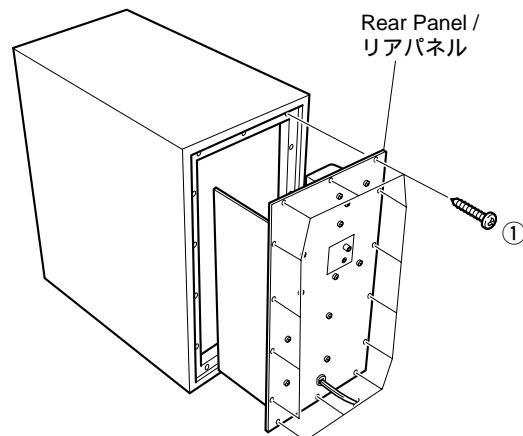

Fig. 2
Remove 14 screws (①) in Fig. 2.
(Fig. 2)